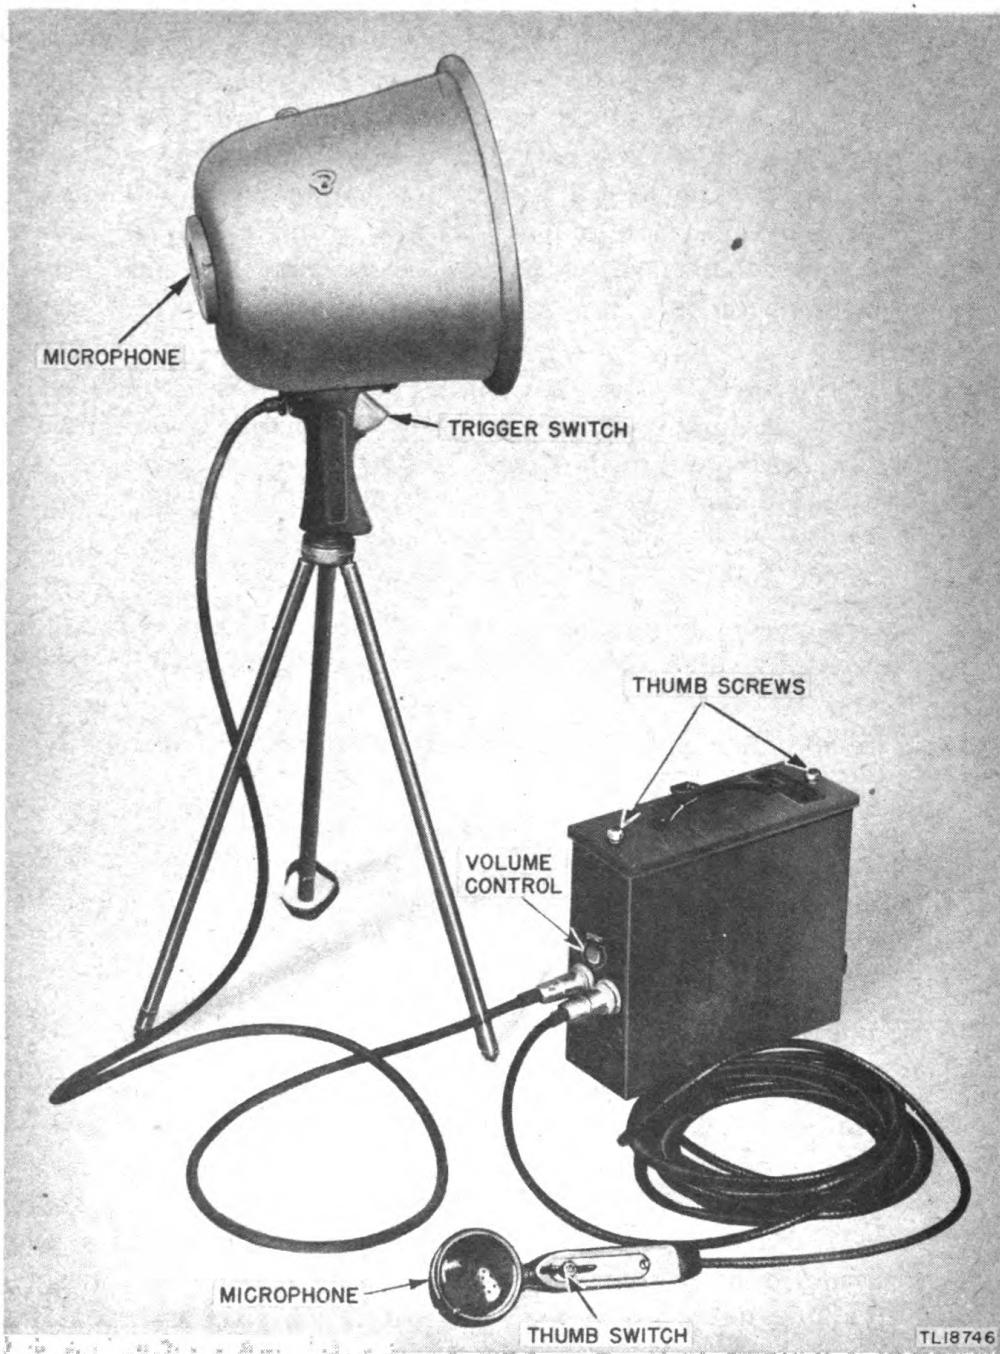
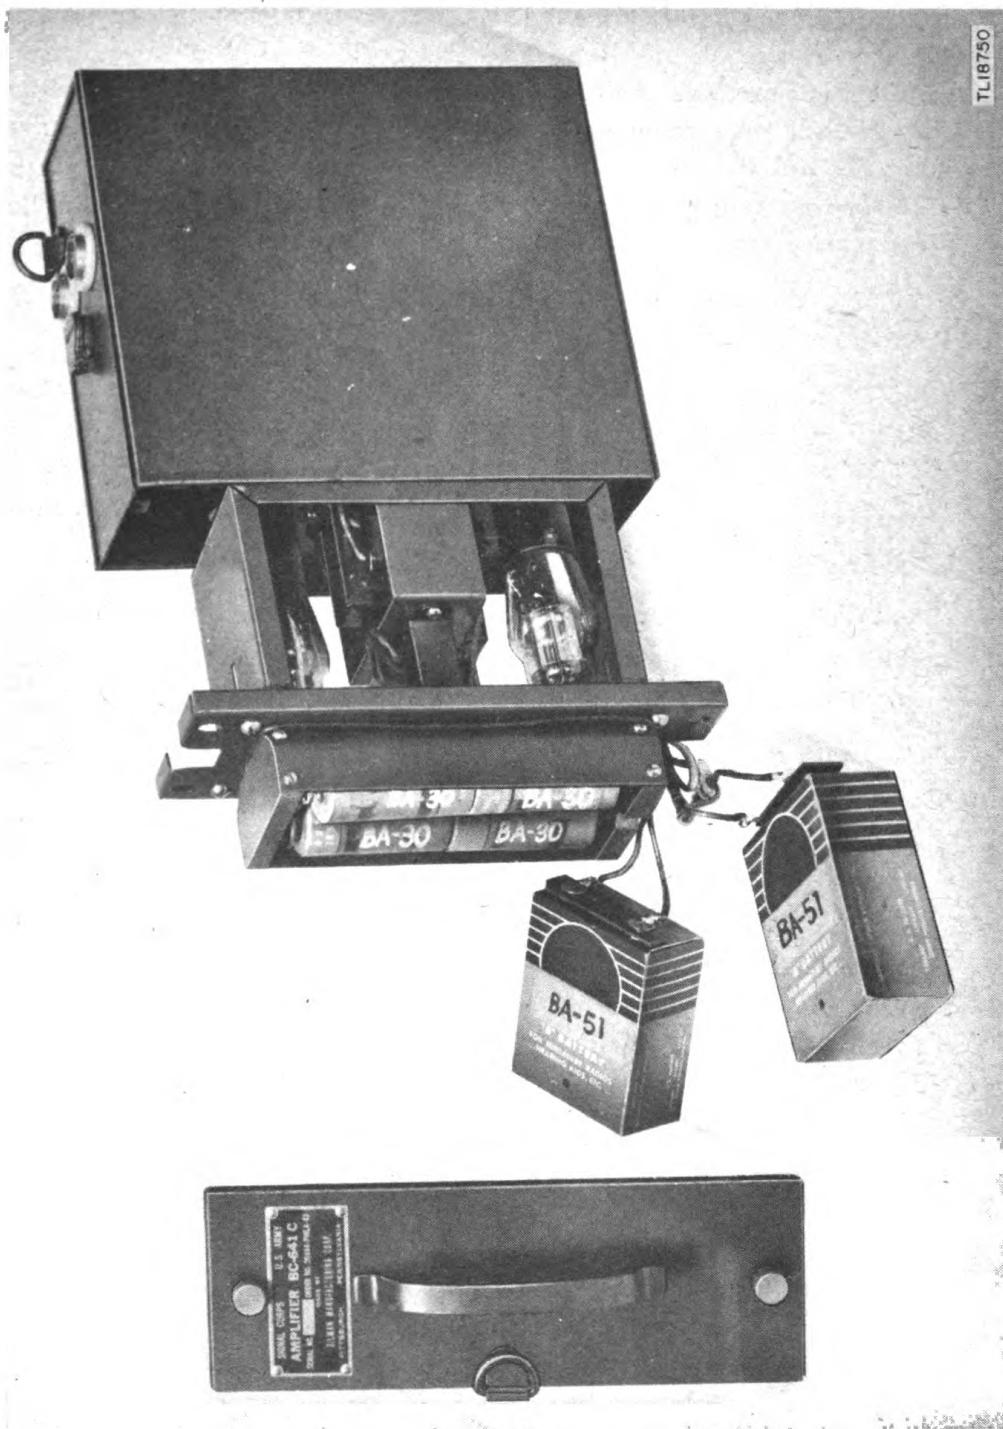

Figure 2. Public Address Equipment PA-4-C, assembled with Tripod M-230 and Microphone T-36-C
Figure 6. Amplifier BC-641-C, showing chassis and method of connecting Batteries
Microphone T-36-C consists of a carbon type microphone unit (same as used in Loudspeaker LS-6-C) assembled in a hand housing fitted with a thumb operated switch (86) (figs. 2 and 4). The operation of Microphone T-36-C is accomplished by moving the switch arm to either the left or the right with the thumb. The system is non-operative when this switch is released. A 24-foot 3-conductor cord with connector (89) is attached to the handle of Microphone T-36-C for connecting this unit to Amplifier BC-641-C.
This tripod is used as a mounting for Loudspeaker LS-6-C by screwing the tripod into the drilled and tapped hole at the bottom of the handle on Loudspeaker LS-6-C (figs. 2 and 4).
- (1) Remove the cover from Amplifier BC-641-C by unscrewing the two knurled thumb screws, (it is not necessary to remove the knurled thumb screws entirely). (See fig. 2.)
- (2) Insert four Batteries BA-30 in the "A" battery compartment as shown in figure 6.
- (3) Install two Batteries BA-51 using the connectors (see fig. 6). These connectors are of the polarized type and installation cannot be made incorrectly.
- (4) Place the two Batteries BA-51 with connectors attached, on top of the "A" battery compartment.
- (5) Place the cover over the amplifier case using the knurled thumb screws to fasten it securely.
- (6) Attach connector on the end of the cable of Loudspeaker LS-6-C to the socket on the case of Amplifier BC-641-C (fig. 2) fastening the plug securely with the locking nut on connector.
a. Operation is instantaneous. Press the trigger switch (55) (see fig. 2) on the handle of Loudspeaker LS-6-C, and speak into the microphone (61) mounted on the back of Loudspeaker LS-6-C. Best results will be obtained by speaking close to the microphone.
b. To operate Microphone T-36-C attach the connector (see fig. 2) of Microphone T-36-C to the socket on the case of Amplifier BC-641-C. Operation of Microphone T-36-C is instantaneous upon throwing the thumb switch. Both microphones can be used at the same time, or either of them can be used alone.
- c. Unscrew the four corner screws of the internal dividing plate. The complete chassis with "A" battery compartment can then be removed as a complete unit (fig. 6).